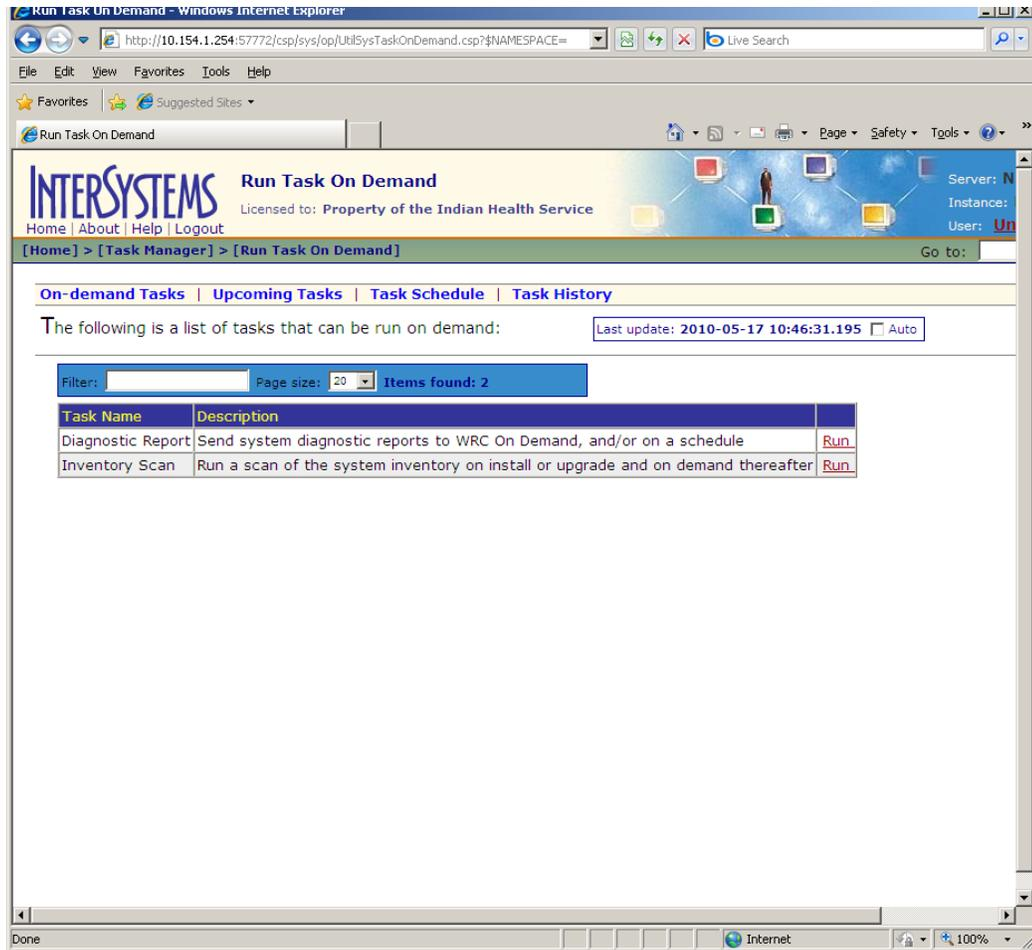

Figure C-7: Run Task On Demand page
1. On the **Task Manager** page, click **Run On-Demand Task** to open the **Run Task On Demand** page, as shown in Figure C-7.